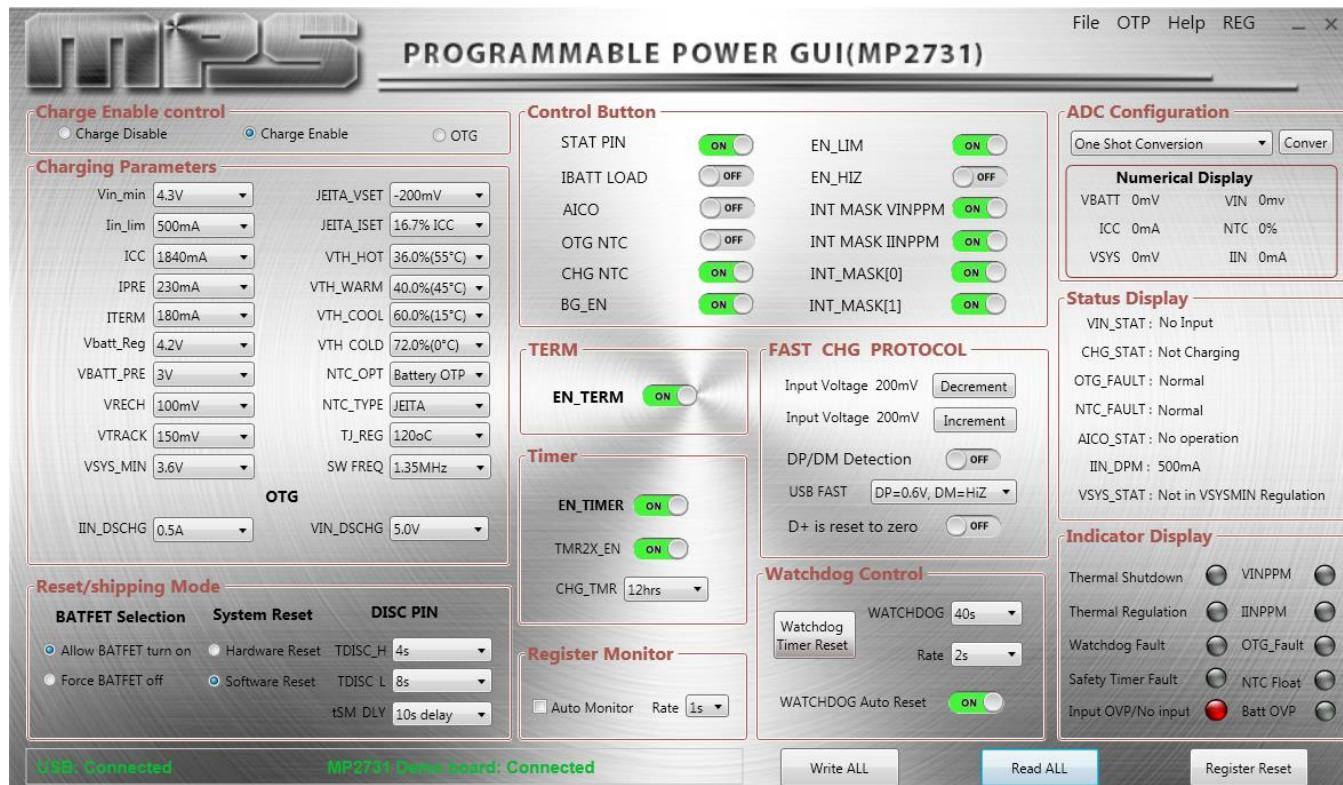

Figure 7: Connected USB and MP2731 Demo Board
- If the connection is successful, both the USB and MP2731 demo board statuses will be listed as “Connected” (see Figure 7).
- 2. Click the “Read All” button to read the I²C register values. The default values should be displayed (see Figure 7).